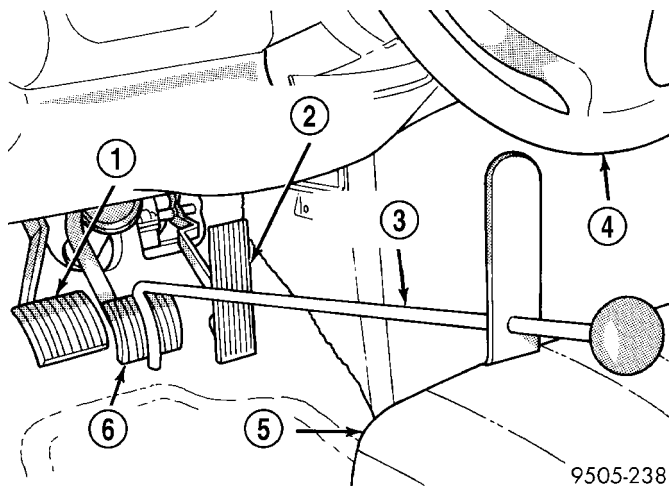

Fig. 59 Brake Pedal Holding Tool Installed
(1) Disconnect and isolate the negative battery connection at the right front strut tower.
(2) Using a brake pedal holding tool such as shown (Fig. 59), depress brake pedal past its first 1 inch of travel and secure in this position. This will isolate the master cylinder reservoir from the brake hydraulic system, not allowing the brake fluid to drain out of the reservoir.